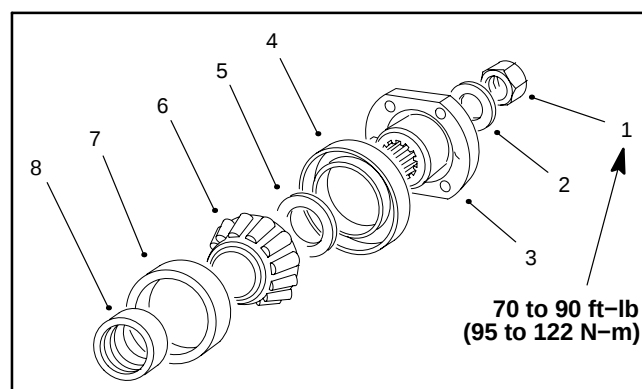

Figure 45
11. Install seal into housing. Install shim, flange coupler, washer and nut onto end of the pinion shaft (Fig. 45). Torque nut securing pinion coupler from 70 to 90 ft-lbs (95 to 122 N-m).